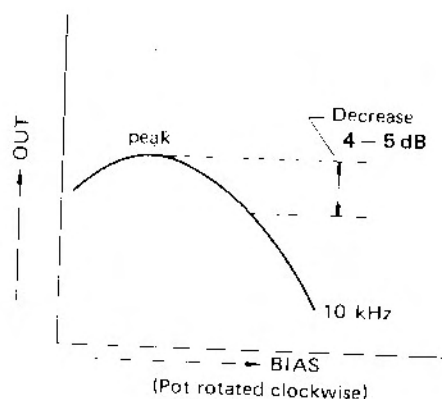

Fig. 2-16. Bias Level Adjustment
5. Begin adjustment by turning the trimmer (C134) completely counterclockwise. Next, loosen and turn the trimmer clockwise and the AF level meter will rise to give peak reading. Slowly continue the clockwise rotation until the reading on the level meter drops 4 – 5 dB from the peak reading as shown in Fig. 2-16.